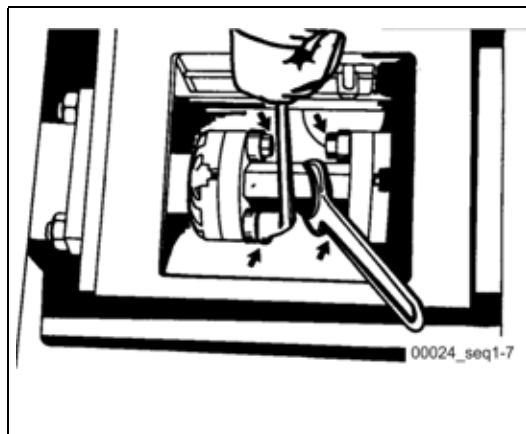

Fig. 326
- Loosen the fastening screws on the distance piece and remove them. While doing so, hold the distance piece on the continuous hexagon (Fig. 326).